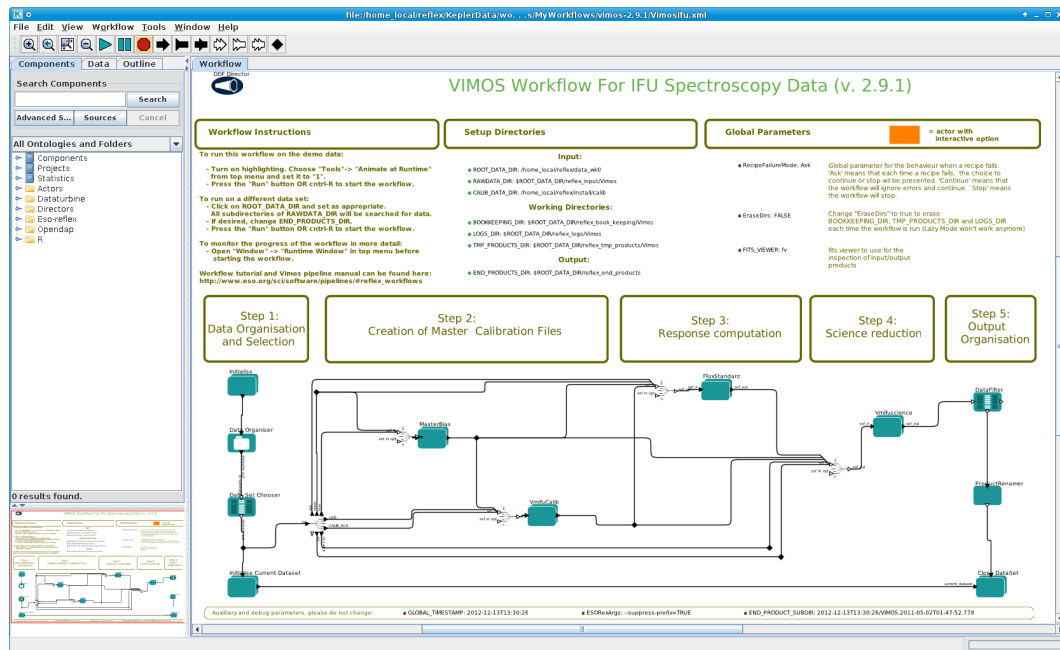

Figure 4.2: *VIMOS/IFU workflow general layout.*
2. Now open the VIMOS workflow by clicking on File -> Open File, selecting first vimos-2.9.11 and then the file VimosIfu.xml in the file browser. You will be presented with the workflow canvas shown in Figure 4.2. Note that the workflow will appear as a canvas in a new window.